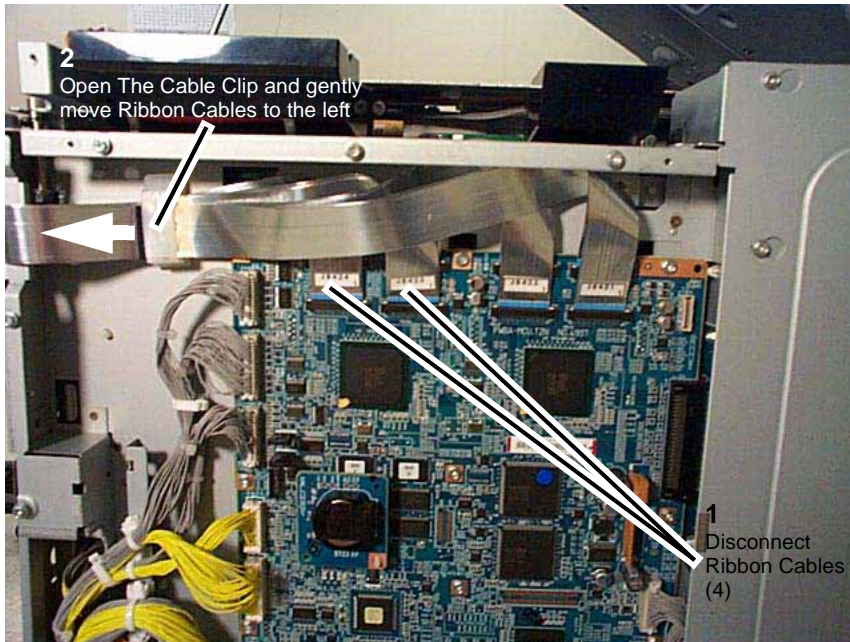

Figure 1 Disconnecting Ribbon Cables on MCU PWB
3. Loosen screws (11) and remove the MCU Cover (PL 11.1).
4. On the MCU PWB, disconnect Ribbon Cables and open the Cable clip (Figure 1).